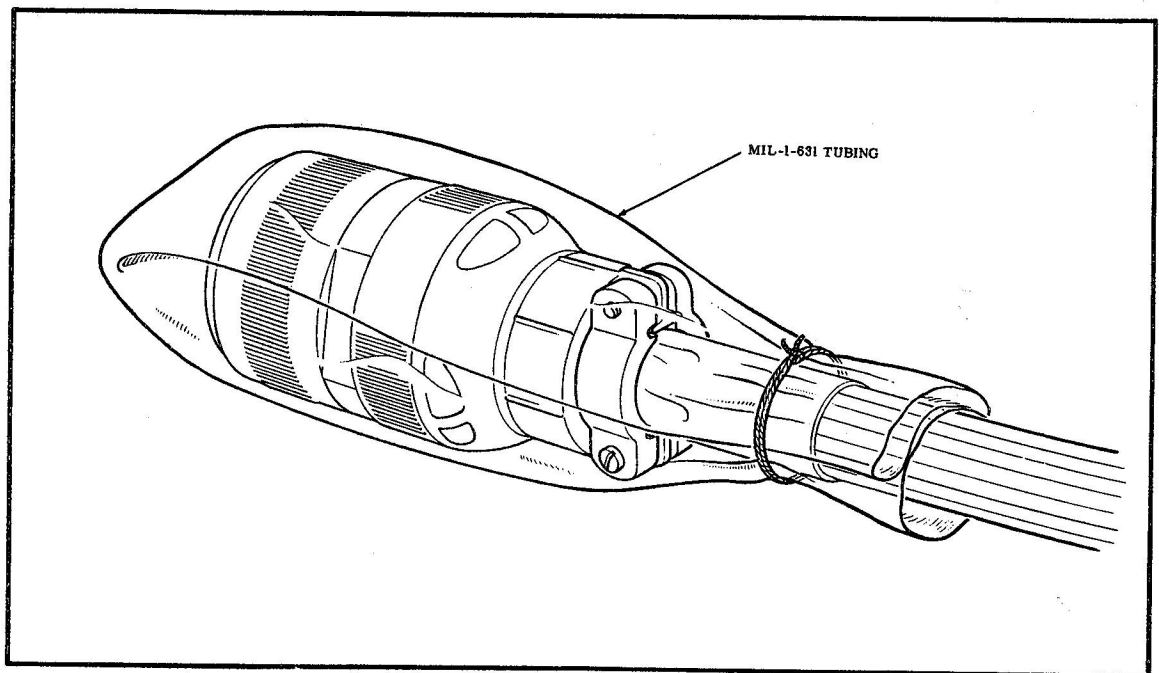

Figure 20 Unused Connector Insulation
- (c) Insulate connector plugs which are not used or stowed in mountings as shown in Figure 20. Plugs must be stowed with a drip loop adjacent to the plug to prevent entry of fluids, see Figure 7.